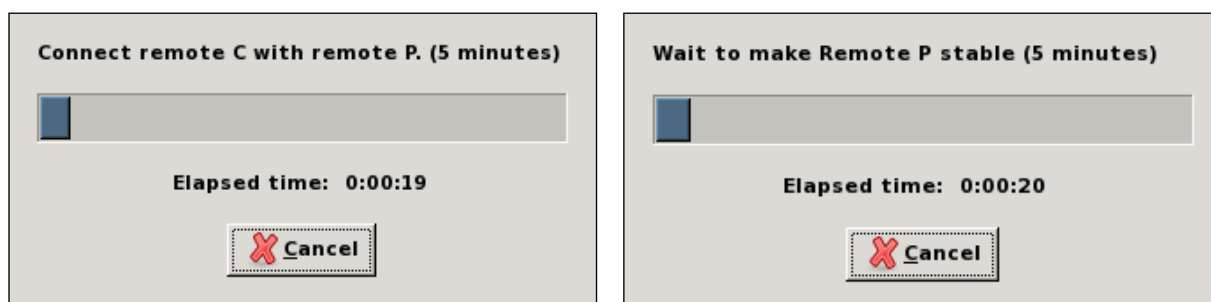

Figure 79 The two Depolarize dialogs
- Follow the instruction on the first dialog (Figure 79)